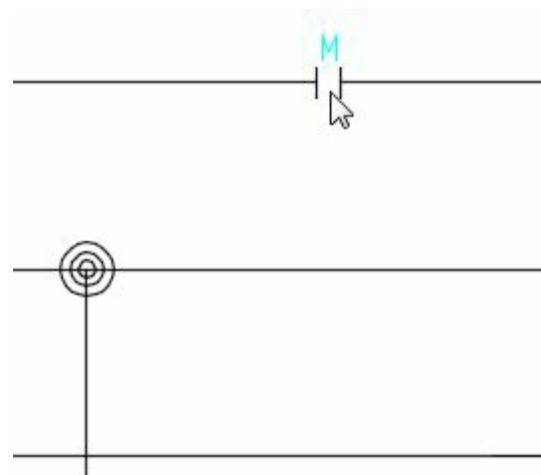

Figure-21. Contact symbol placement
- Click on the top wire of the bus as did before; refer to Figure-21. The **Build Up or Down?** dialog box will be displayed.